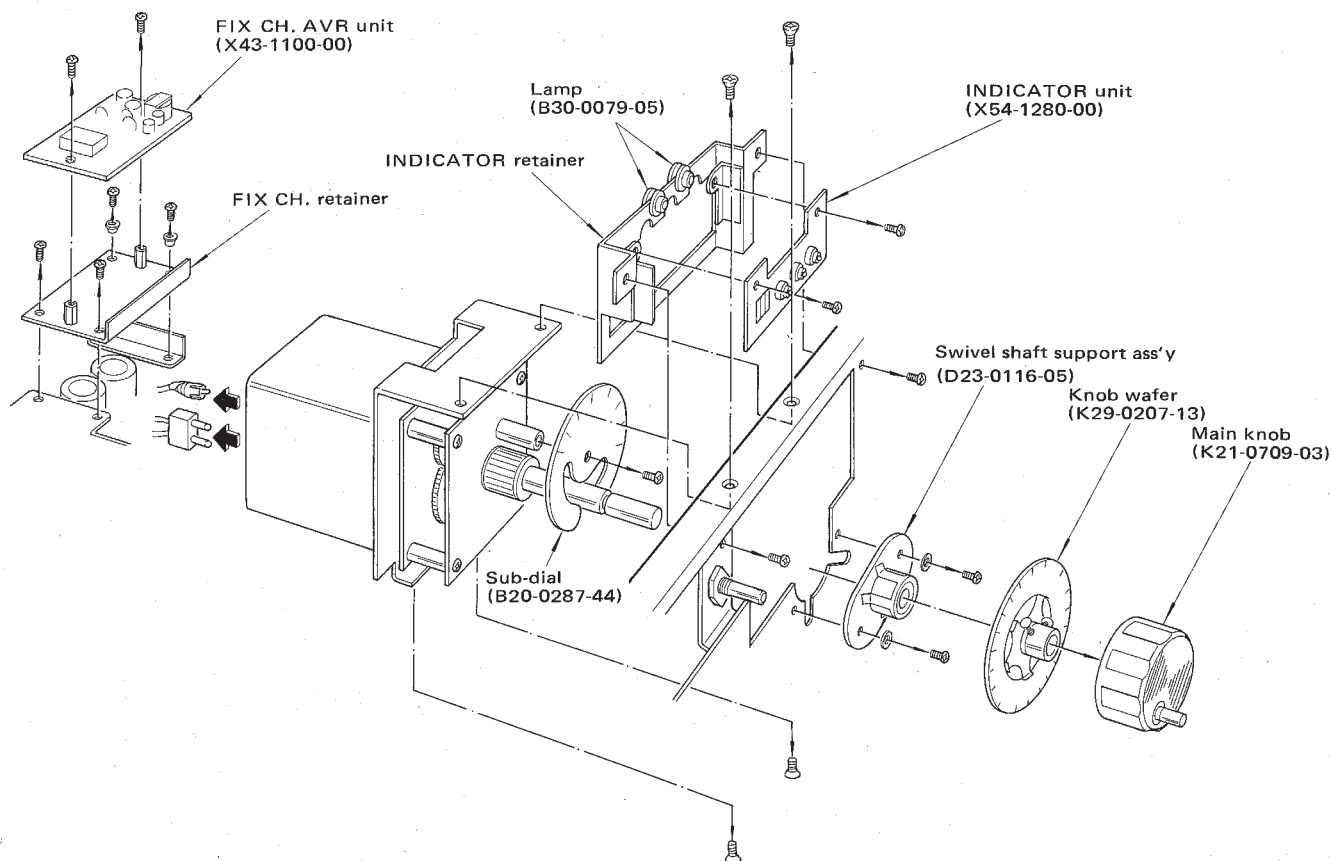

Fig. 13 Exploded View of VFO and INDICATOR Unit
1. Remove the front panel knobs, take off the transceiver's case, remove the front glass and pull off the front panel as shown in Figure 13.
5. Gently lift and pull the VFO assembly from the chassis being very careful not to damage the sub-dial. Figure 13 shows the entire assembly.
- 2) Loosen the two screws of the indicator unit and lower it. (Figure 13.)